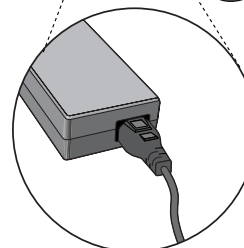

Figure G.1
7. Connect one end of the power cord to the AC Adapter and the other end to the power outlet (Figure E.1) (Figure G.1).